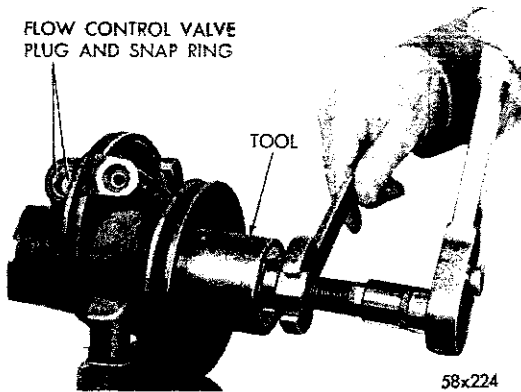

Fig. 52—Removing the Pump Pulley
(1) Clean the exterior of the pump before disassembly.
(2) Remove the filler cap and drain the reservoir.
(3) Remove the brackets, reservoir screws, gasket and "O" ring.
(4) Using spacer washers between the front bracket and the pump, reinstall the front bracket for use as a holding fixture. Clamp the bracket in a vise (Fig. 52).
(5) Remove the pulley with Tool C-3615 as follows:
- (1) Remove the bracket and reservoir.
- (2) Remove the pump pulley (Fig. 52).